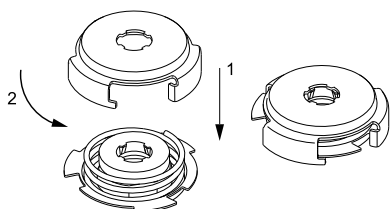

Fig. 7 Fitting the spring and driver
6. Fit spring (pos. 108) and driver (pos. 112). See fig. 7.